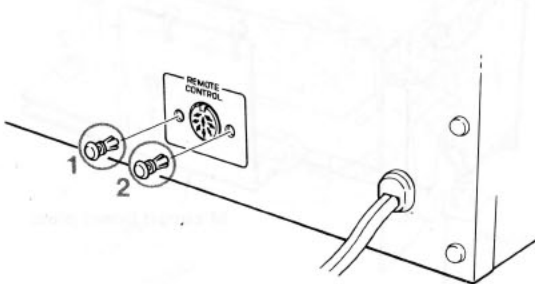

Fig. 16
- Remove plastic rivets ① and ② in fig. 16 which fix the remote control terminal of rear panel.